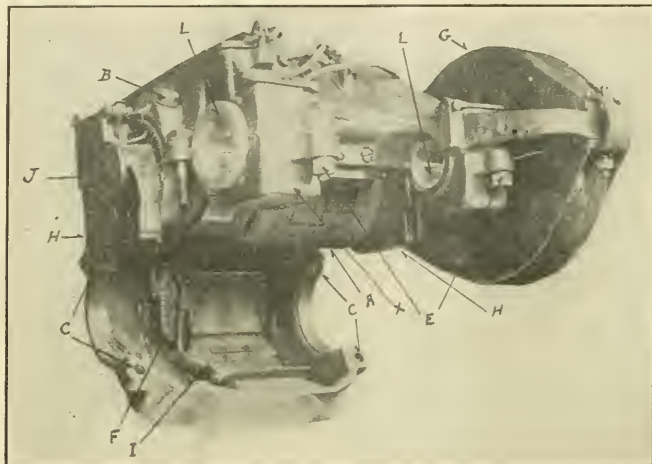
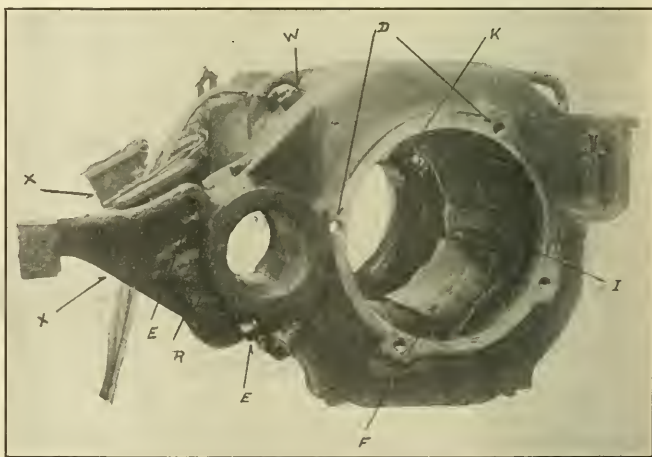

FIG. 1. SPLIT FRAME MOTOR.
FIG. 2. BOX FRAME MOTOR.
The frame as the word signifies, is the steel casting upon which the electrical and mechanical parts are built, of which there are two types, the "split" and the "solid" or "box" types. Figs. 1 and 2 show these two types, respectively, and are photographs of the standard Westinghouse motors. The design in the frame in no way changes the electrical characteristics, as it is possible to have the same motor as regards speed and torque on either the "split" or "box" frames. Each of the two types, however, has its advantages.
Take for instance the split type and referring to our illustration, Fig. 1, it is clearly shown that by dropping down the lower half of the frame, which can be done by removing the parting line bolts, or clamping bolts from holes (C) and allowing the lower half to swing on a hinge on the upper half that the motor can be inspected and the different parts re-
the split frame, both halves are milled or planed to a surface and most carefully done, so that the two halves will fit together closely, leaving no air gap through which dirt and water could get into the motor. Each half is carefully lined up before milling, so that just the right amount of material is removed in order that further operations will come correctly. After milling the halves are set up into another machine and holes are drilled to template for the clamping bolts (C) and axle cap bolts (E), Fig. 1. The first operation in case of the box frame is to locate the correct amount of material to mill off the frame at point (R) Fig. 2, and to set up the motor in the machine so that the slope of this surface will be exactly correct with respect to the vertical. The holes are then drilled for the axle cap bolts (E).
The halves are now bolted together, the axle caps (X), Figs. 1 and 2, are fitted in place, and the motor is set up in a boring mill to be bored out for the axle bearings (L), Fig. 1, and the armature housings (H). The ends of the castings are faced off to proper dimension between faces in this machine.
With the box type of motor, Fig. 2, it is necessary to jack up one end of the car and run out the truck. The motor must then be removed from the truck and same repaired. On large railway systems this procedure is not a disadvantage as a spare truck fitted with motors can replace the one removed, or the damaged motor can quickly be replaced by an extra one and the car put back into service. The motor can then be overhauled and repaired.
held tight by nuts and lockwashers (W), Fig. 2.